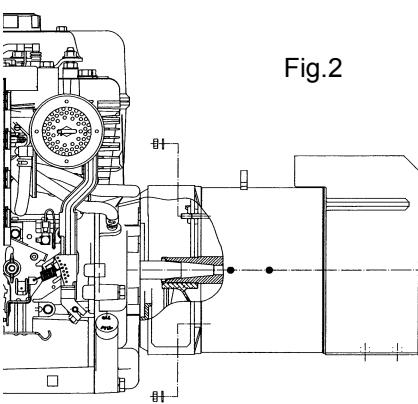

Fig.2
-) lock the alternator into the cover by fixing the four M8 nuts onto the bolts, applying a tightening torque of $16\pm7\%$ Nm (figure 2)